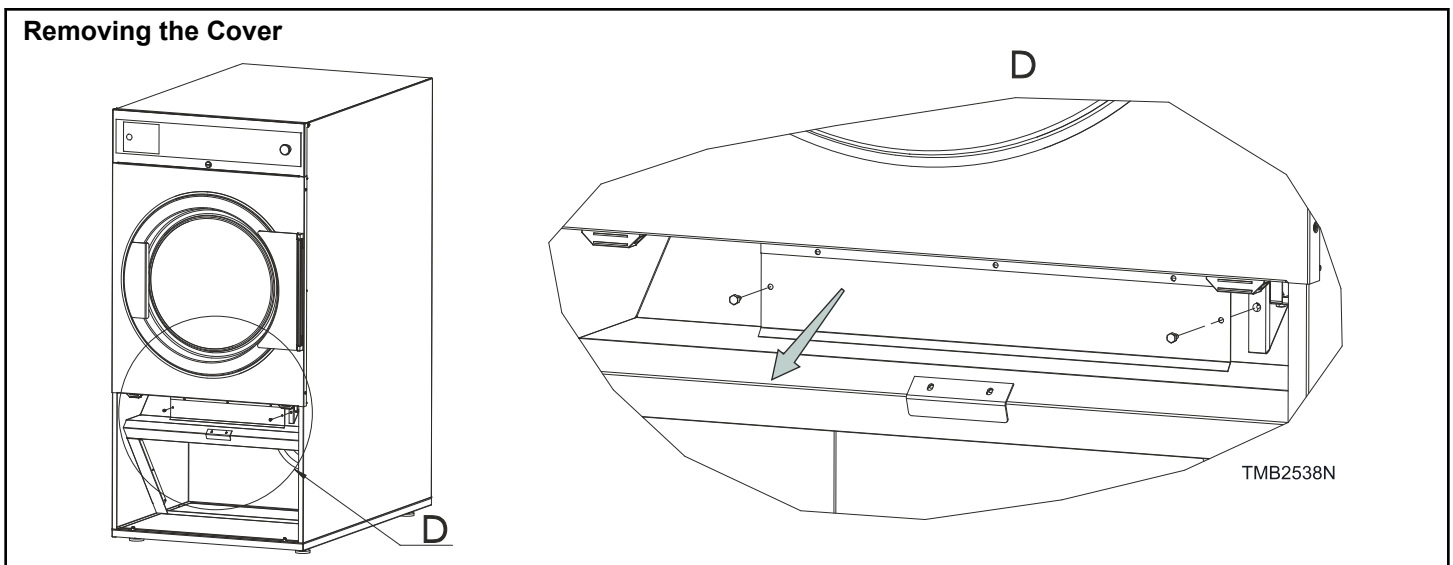

Figure 23
5. Remove the cover below the drying drum. Refer to *Figure 23*. Not valid for 9 kg / 20 lb / 195 L.